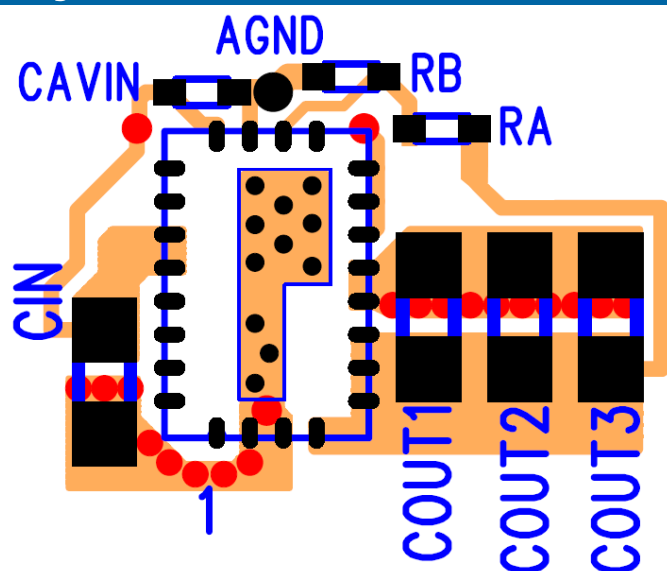

Figure 7. Optimized Layout Recommendations
**Recommendation 5:** AVIN is the power supply for the small-signal control circuits. It should be connected to the input voltage at a quiet point. In Figure 7 this connection is made at the input capacitor. Connect a 1µF capacitor from the AVIN pin to AGND.
**Recommendation 6:** The layer 1 metal under the device must not be more than shown in Figure 7. See the section regarding exposed metal on bottom of package. As with any switch-mode DC/DC converter, try not to run sensitive signal or control lines underneath the converter package on other layers.
**Recommendation 8:** Keep  $R_A$ ,  $R_B$  close to the VFB pin (See Figures 7). The VFB pin is a high-impedance, sensitive node. Keep the trace to this pin as short as possible. Whenever possible, connect  $R_B$  directly to the AGND pin instead of going through the GND plane.